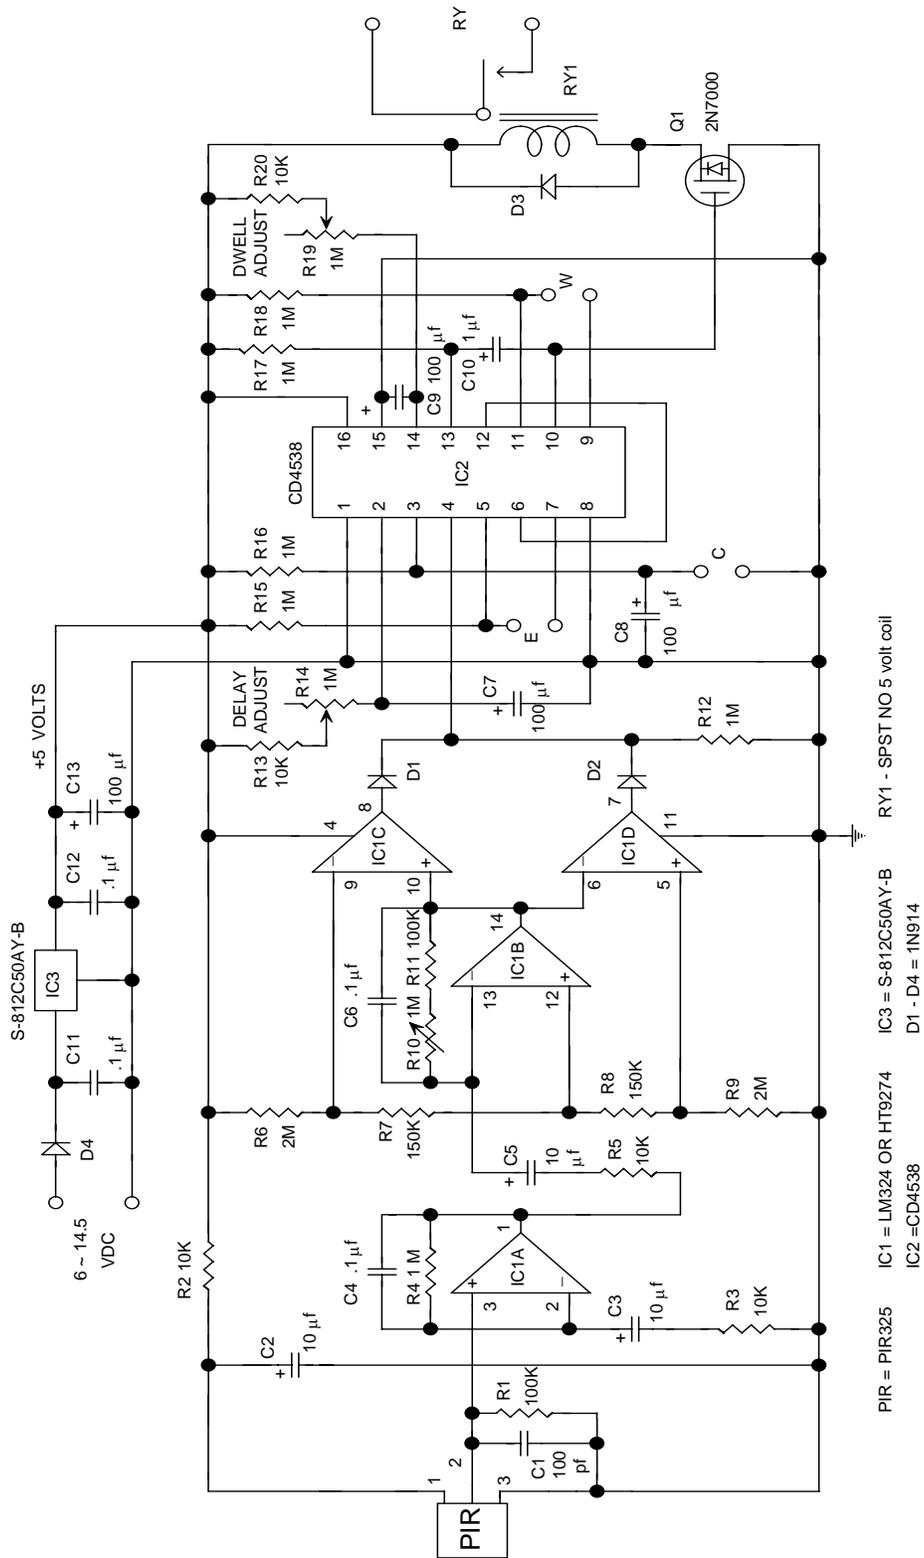
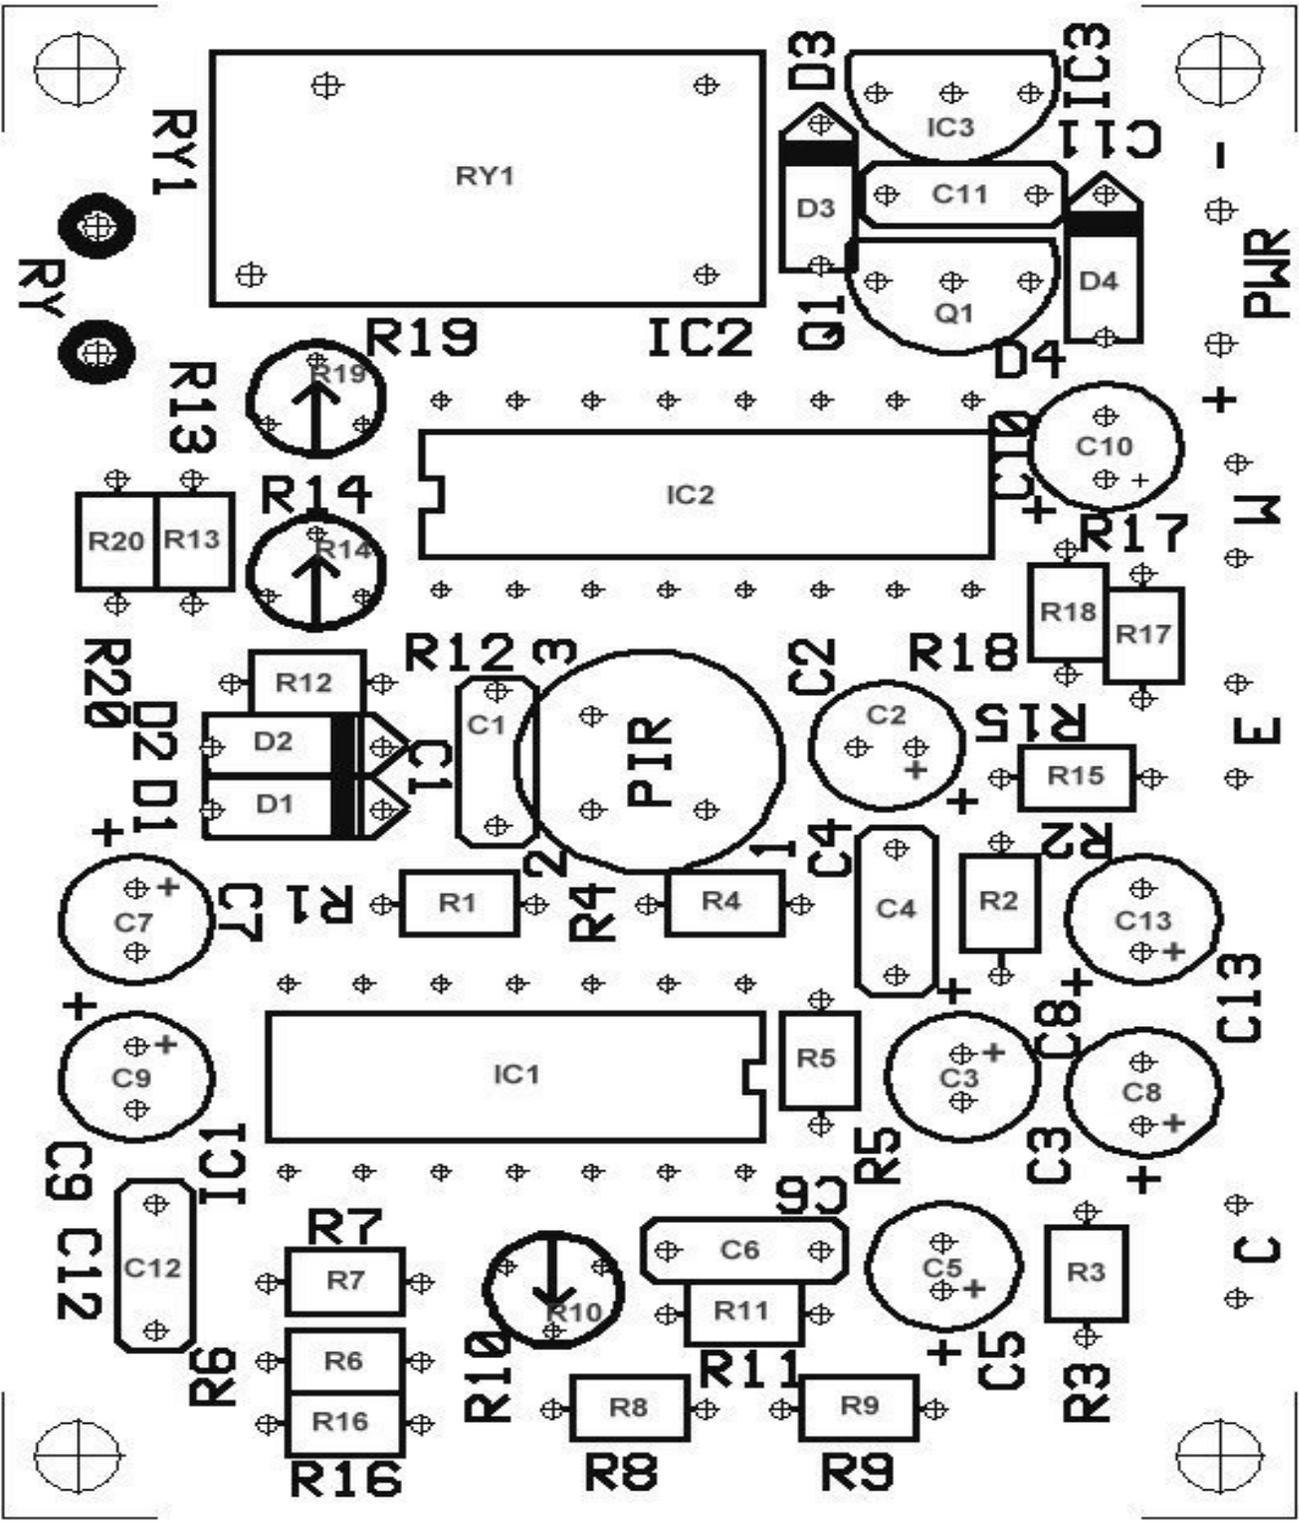

FIGURE 1
FIGURE 2
Refer to the schematic in figure 1 and the physical layout in figure 2 for parts placement.
- 4 Insert electrolytic capacitors C2, C3, C5, C7, C8, C9, C10, C13 with their long positive lead in the hole marked + on the PC board and in figure 2. Bend the leads, cut excess wire off and solder.
Figure 1 is a circuit diagram of the GLMDA. Power is supplied to the circuits and to the relay through reverse polarity protection diode D4 and micropower 5 volt regulator IC3. The 5 volts from the regulator is further filtered through R2, C2 and fed to pin 1 of the PIR325 pyroelectric sensor. The signal output at pin 2 of the sensor is bypassed to ground by a 100pf capacitor C1 to shunt any RF energy that might be picked up from radio transmitters or cell phones. A 100K load resistor R1 is also connected from pin 2 to ground.